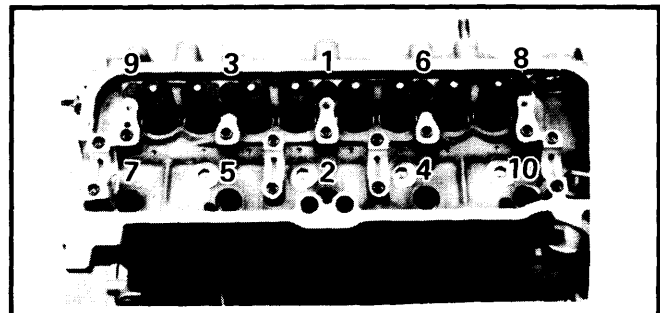

Fig. 2 Cylinder Head Tightening Sequence
5) Remove camshaft and distributor drive gear. Loosen cylinder head bolts in 2 or 3 steps and in sequence shown in Fig. 2. Lift head from engine.
Installation — 1) Ensure that mating surfaces are clean, then install new gasket and head. Tighten head bolts gradually in 2 or 3 steps as shown in Fig. 2.